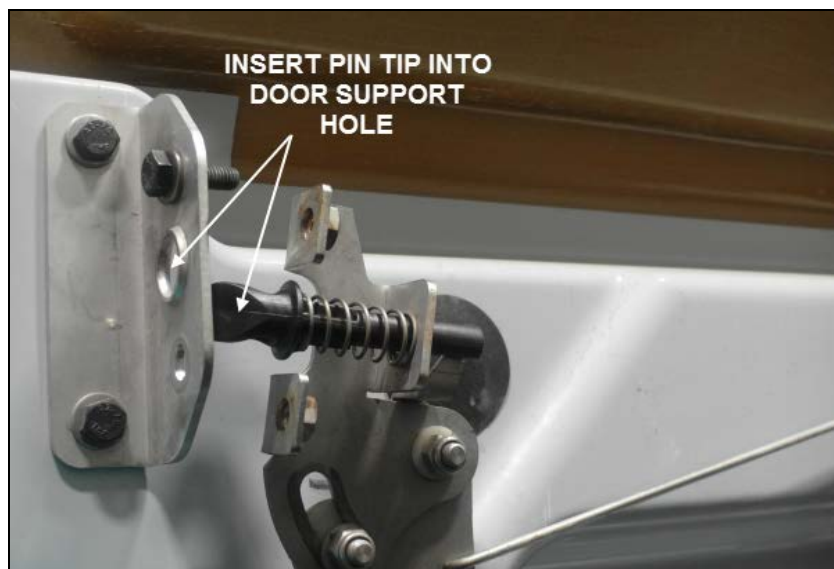

FIG.9 LATCH MECH. INTO DOOR SUPPORT
- Insert latch pin into door support hole (engage a few threads of the bracket screws to maintain the assembly) (Fig.9).